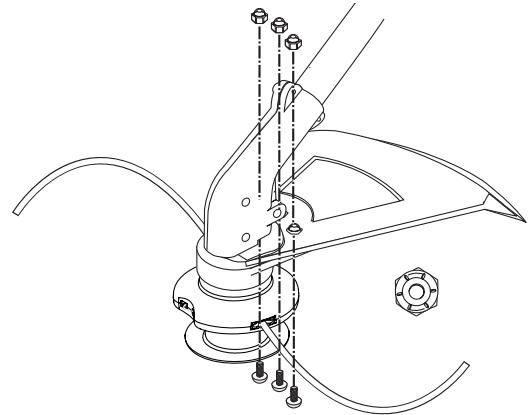

Fig. 5
2. Place a hex lock nut into one of the three recessed holes on the top of the cutting attachment shield (Fig. 5).
3. Install a screw into the hole from the bottom of the cutting attachment shield and screw it into the nut installed in step 2 (Fig. 5). Do not tighten.